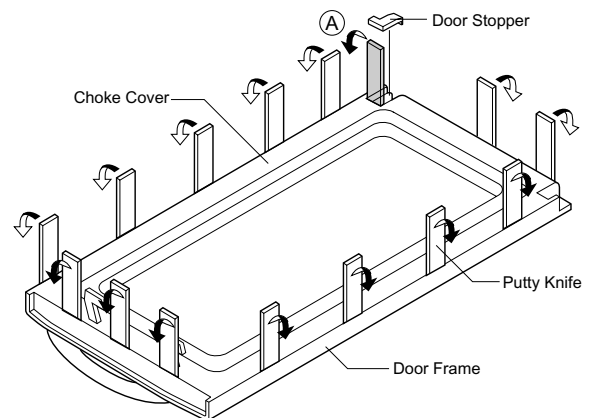

Figure C-3. Door Disassembly
5. Insert a putty knife (thickness of about 0.5mm) into the gap Δ between the door stopper and the choke cover as shown in Figure C-3 to free engaging parts.
7. Insert a putty knife (thickness of about 0.5mm) into the gap A between the choke cover and door stopper and between the choke cover and the door frame as shown Figure C-3 to free engaging parts.
8. Pry the choke cover by inserting a putty knife in order shown in Figure C-3.